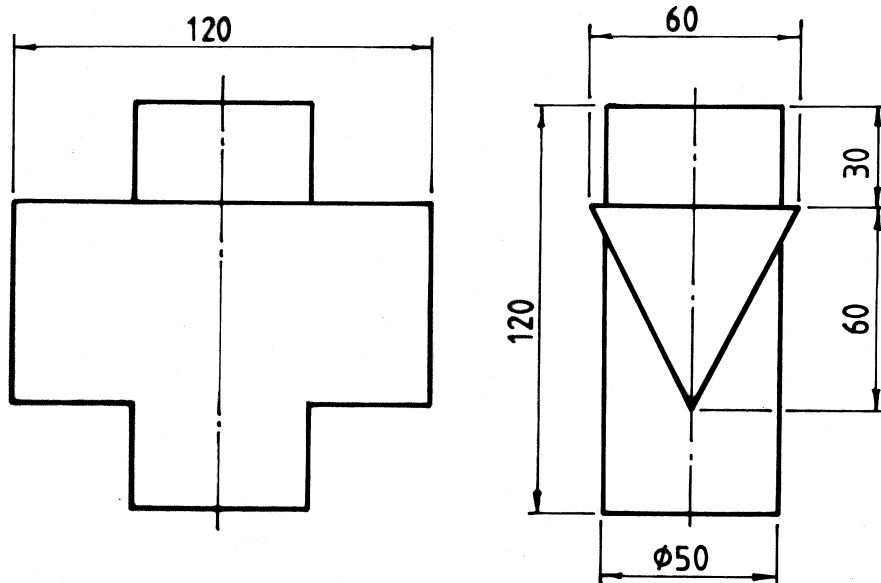

FIG.2 FIGOR 2
2. The elevations of two intersecting pipes are shown in Fig. 2.